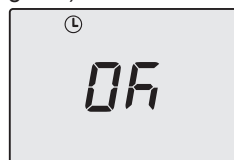

Fig. 2.5
Press key 20 briefly to save the values entered and the display will indicate **OK** to confirm (Fig. 2.5).